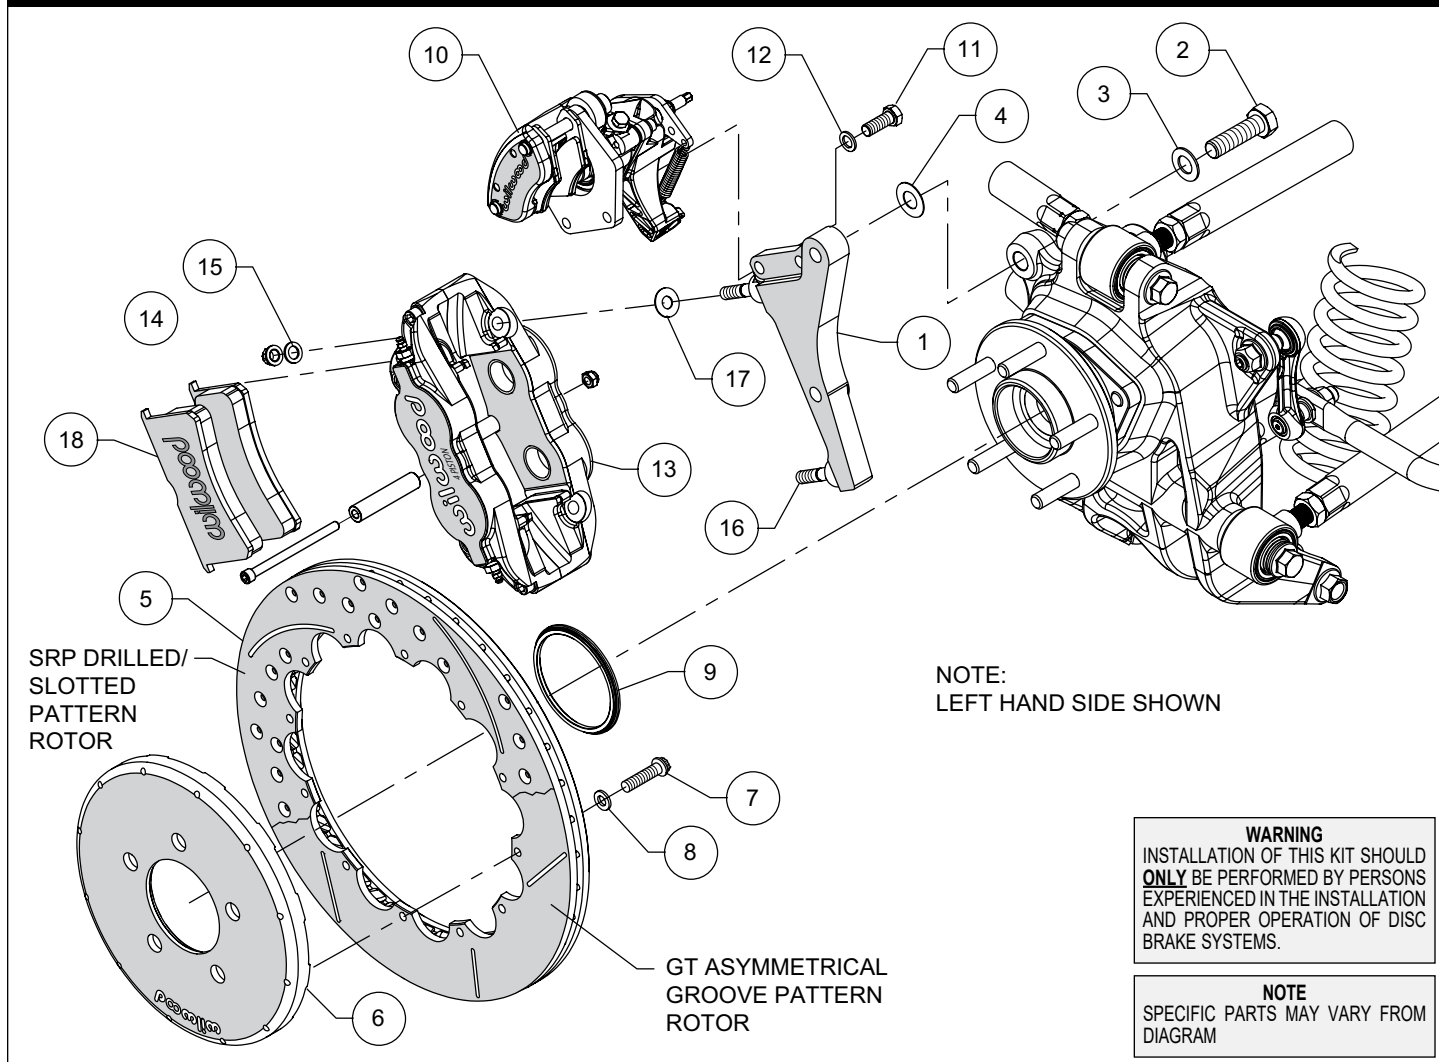
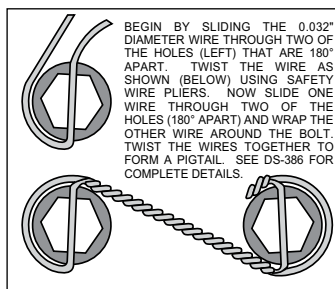

Figure 1. Typical Installation Configuration
Figure 3. Safety Wire Diagram
NOTE: Numbers in parenthesis refer to the parts list and Figure 1 on the preceding pages.
- The caliper mount bracket (1) should initially be installed with clean, dry threads on the mounting bolts. Orient the bracket as shown in Figure 1, and Photo 1, and install using bolts (2) and washers (3). Initially place one .029" thick shim (4) on each bolt between the bracket and upright, Figure 1. Temporarily tighten the mounting bolts. **NOTE:** The bracket must fit squarely against the mount bosses on the upright. Inspect for interference from casting irregularities, machining ridges, burrs, etc. Later, after the caliper alignment has been checked, the mount bolts will be secured using red *Loctite*® 271.
- Orient the rotor (5) and the hat (6) as shown in Figure 1 and Photo 2. Attach rotor to hat using bolts (7) and washers (8). Apply red *Loctite*® 271 to the bolt threads and torque to 155 in-lb using a criss-cross pattern. For an added measure of security, the bolts may be safety wired using standard 0.032 inch diameter stainless steel safety wire as shown in Figure 3. Please refer to Wilwood's data sheet DS-386 (available at www.wilwood.com/Pdf/DataSheets/ds386.pdf) for complete safety wire installation instructions.
- Initially place one .035" thick shim (17) on each stud (16) as shown in Figure 1 and Photo 5. Mount the caliper (13) onto the bracket (1) using lock nuts (14) and washers (15), Figure 1. Temporarily tighten the lock nuts and view the rotor through the top opening of the caliper. The rotor should be centered in the caliper, Photo 6. If not, adjust by adding or subtracting shims (4) between the bracket and the mounting bosses. Always use the same amount of shims on each of the two mounting bolts. Once the caliper alignment is correct, remove the bracket mounting bolts (2) one at a time, apply red *Loctite*® 271 to the threads, and torque to 105 ft-lb.
- Orient the parking brake caliper (10), as shown in Figure 1 and Photo 10, and mount onto the top section of the caliper mounting bracket (1) using bolts (11) and washers (12), Figure 1. Apply red *Loctite*® 271 to bolt threads, and torque to 30 ft-lb.